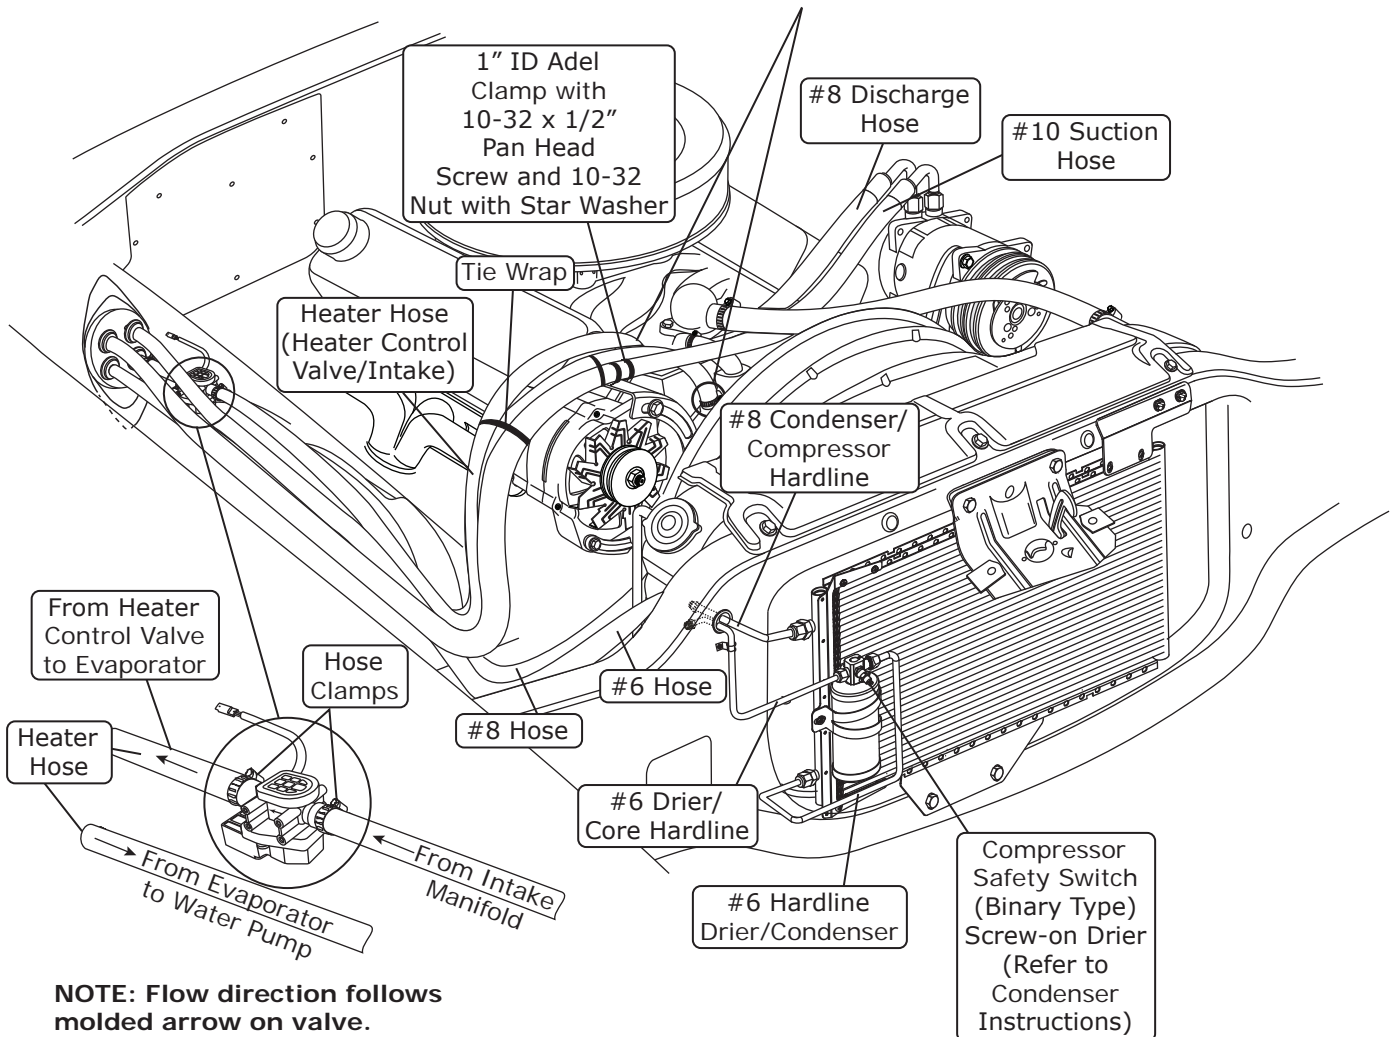

Figure 1
2. In line with the drain, lightly make a mark on the firewall. Measure 1" down. Drill a 5/8" hole through the firewall (See Figure 1, below).
1. Locate the #8 compressor A/C hose. Lubricate (2) #8 O-rings (See Lubricating O-rings, Page 11) and connect the 135° female fitting with service port to the #8 discharge port on the compressor. Then, route the straight female fitting to the #8 condenser hardline coming through the core support (See Figure 1, Page 19). Tighten each fitting connection as shown in Lubricating O-rings, Page 11.
4. Using a 1" ID Adel clamp, a 10-32 x 1/2" pan head screw and a 10-32 nut with star washer, secure the #10 A/C hose to the alternator bracket as shown in Figure 1, Page 19.
1. Route a piece of heater hose from the water pump to the top heater fitting of the heater core as shown in Photo 2, Page 15, and Figure 1, below. Secure using hose clamps.
2. Route a piece of heater hose from the intake to the bottom heater fitting of the heater core as shown in Photo 2, Page 15, and Figure 1, below. **NOTE: Install heater control valve in line with intake manifold (pressure side) heater hose. Secure using hose clamps as shown in Figure 1, below. Also note proper flow direction.**